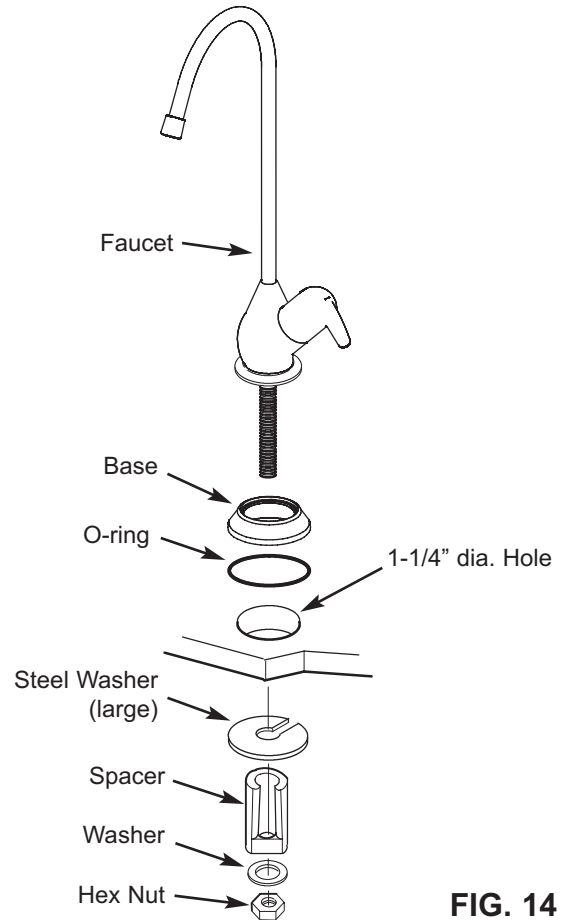

FIG. 14
1. Locate and organize your RO faucet install parts. Refer to Fig. 14.
2. Snap the o-ring into the groove on the bottom of the base and slide the base onto the faucet stud. See Fig. 14.